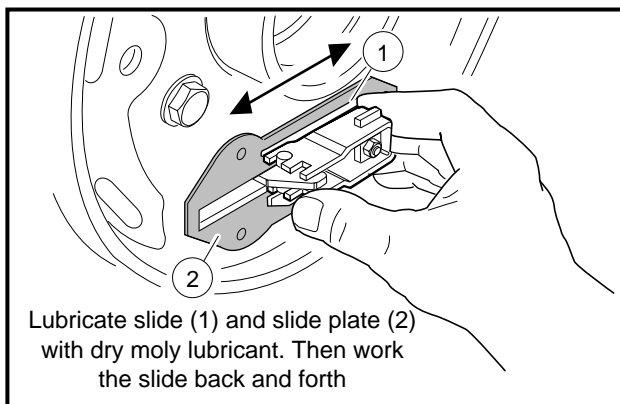

Figure 6-18 Lubricate Slide
3. Lubricate slide (1) and slide plate (2) with dry moly lubricant (Club Car Part No. 1012151) on both sides of the backing plate. After lubricating, work slide back and forth to ensure it slides smoothly and easily (**Figure 6-18, Page 6-8**). Reinstall rubber boot onto backing plate.